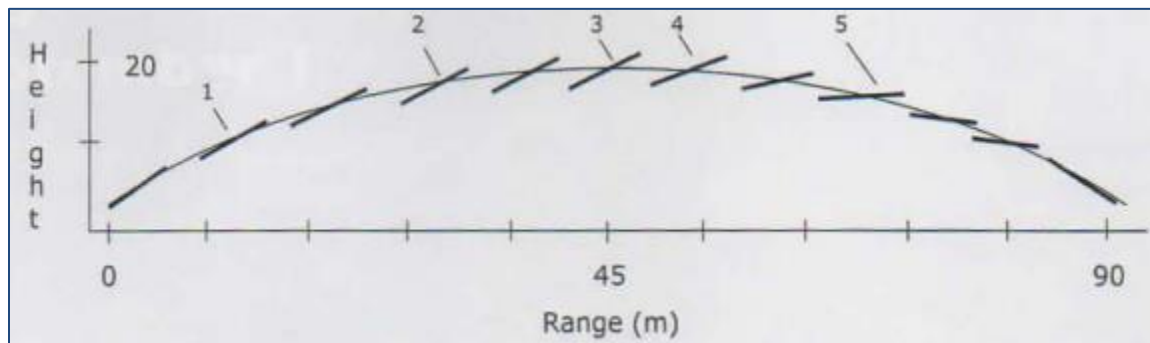

Fig. 29: Javelin trajectory [A. Maheras, 2013]
2. Undertake the effect of head wing on Javelin throw range (Fig. 29).